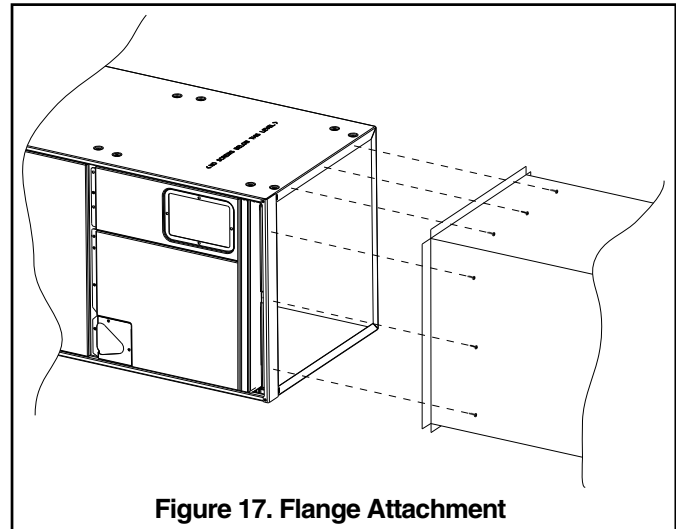

Figure 17. Flange Attachment
7. If a return air duct is connected to the air handler, it must be the same dimensions as shown in Figure 17 and the outline drawing on page 21.
7. If a return duct is connected to the air handler, it must be the same dimensions as the return opening shown in Figure 17 and the outline drawing on page 21.